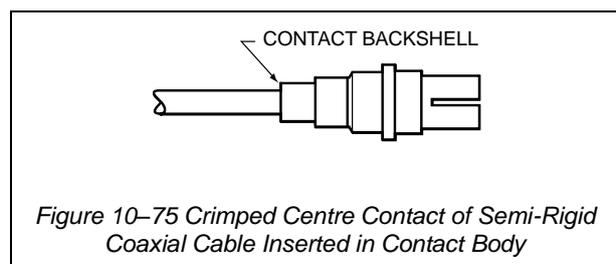

Figure 10-75 Crimped Centre Contact of Semi-Rigid Coaxial Cable Inserted in Contact Body
- (2) Place the cable-contact assembly in the appropriate crimping die (from Table 10-27) of AMP 220066-1 ferrule crimping tool so that the contact backshell is in the crimping die and the shoulder of the contact body (adjacent to the backshell) butts against the die. (See Figure 10-75)
- (3) Close tool handles until ratchet releases to form backshell crimp.